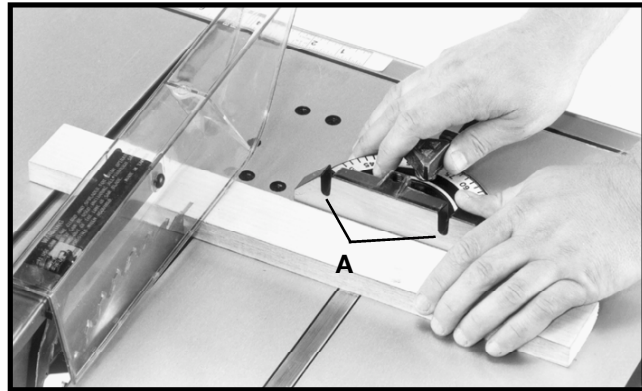

Fig. 45
Cross-cutting requires the use of the miter gage to position and guide the work. Place the work against the miter gage and advance both the gage and work toward the saw blade, as shown in Fig. 45. The miter gage may be used in either table slot. When bevel cutting (blade tilted), use the table groove that does not cause interference of your hand or miter gage with the saw blade guard.
For added safety and convenience the miter gage can be fitted with an auxiliary wood-facing. This auxiliary wood-facing can be fastened to the front of the miter gage by using two wood screws through the slots (A) Fig. 45, provided in the miter gage body and into the wood-facing.